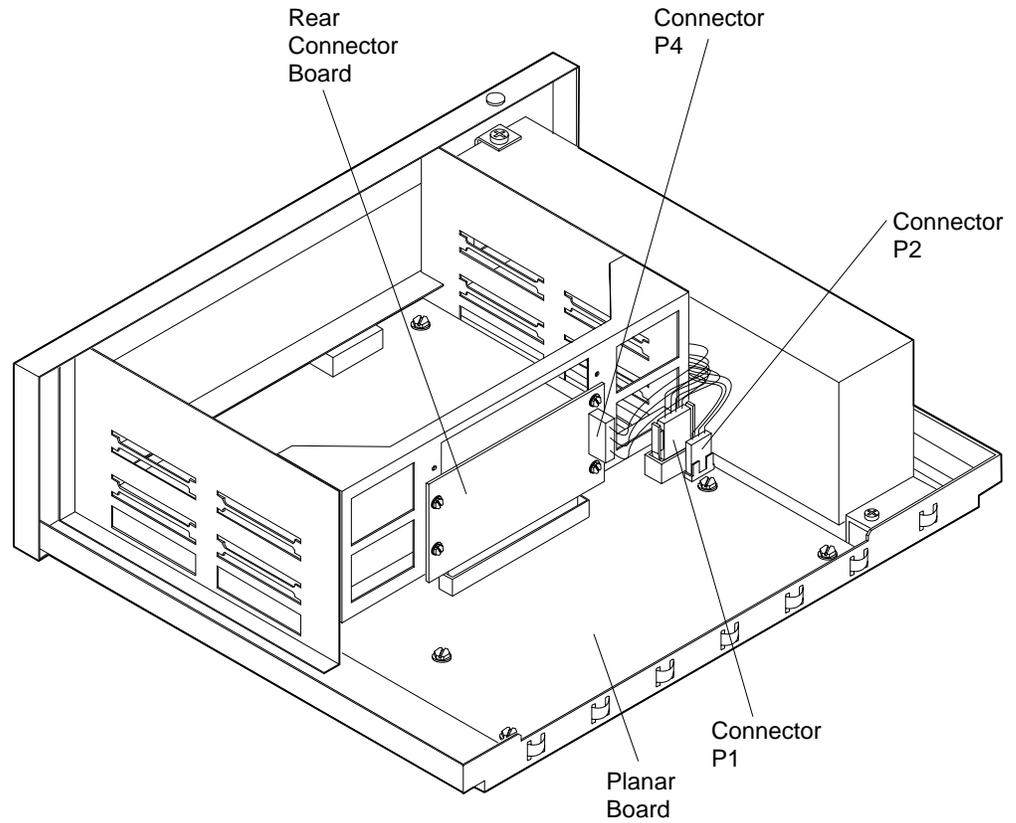

Figure 12-7. Connector and Planar Board Connectors
7. Connect the small white connector (labeled P2) to the planar board as indicated in Figure 12-7.
8. Connect the large white connector (labeled P4) to the rear connector board as indicated in Figure 12-7.